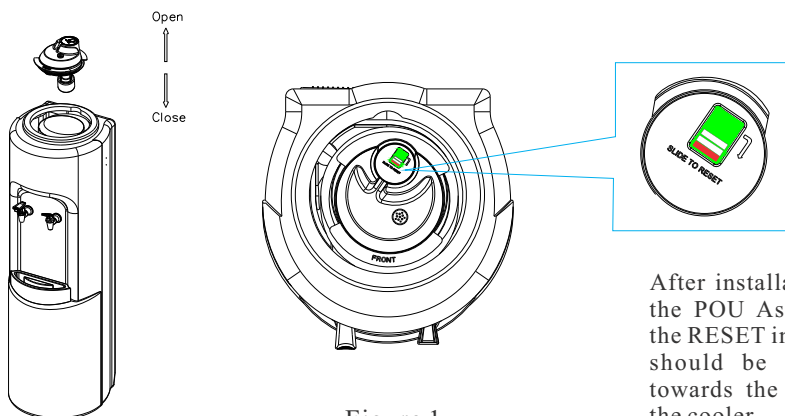
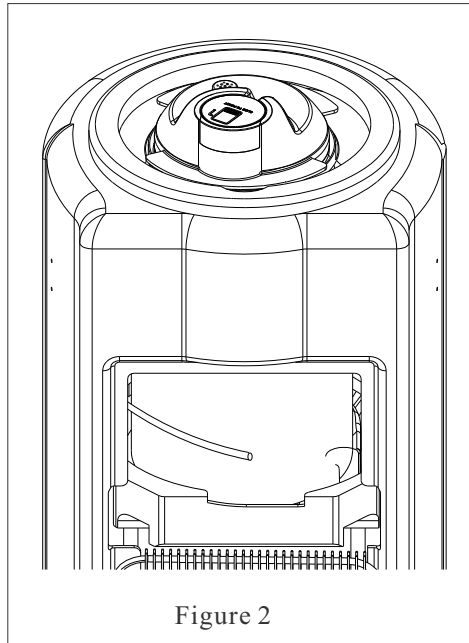

Figure 1
Figure 2
4. Install the POU assembly onto the cooler as per Figure 1. Position tubing so that it exits from the rear of the cooler as per Figure 2.